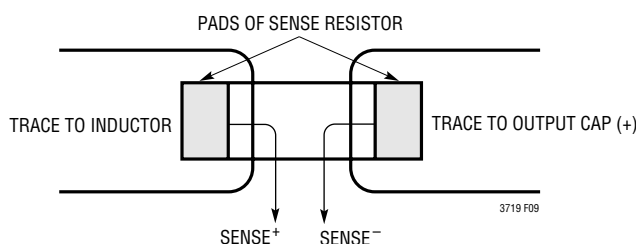

Figure 8. Proper Current Sense Connections
3) Are the SENSE^- and SENSE^+ leads routed together with minimum PC trace spacing? The filter capacitors between SENSE^+ and SENSE^- pin pairs should be as close as possible to the LTC3719. Ensure accurate current sensing with Kelvin connections at the current sense resistor. See Figure 8.